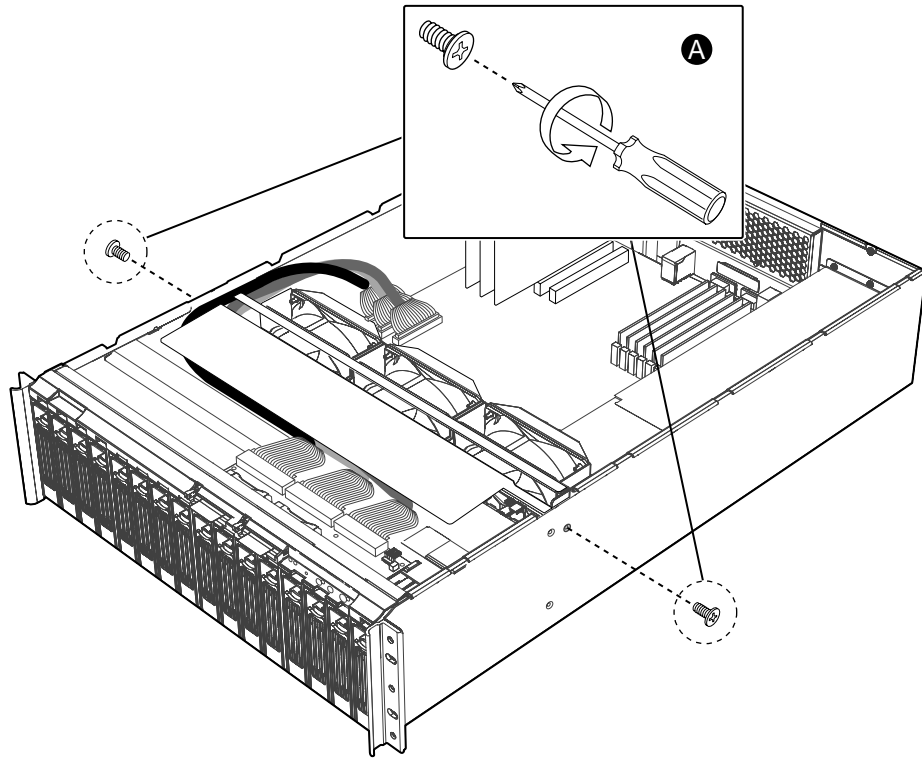

Figure 4. Removing Phillips Screws to Release the System Fan Assembly
- A. Using a Number 1 size Phillips Screwdriver, remove the Phillips screw on each side of the system that holds the system fan assembly in place. See Figure 4. Set these screws aside. They will be re-installed later.